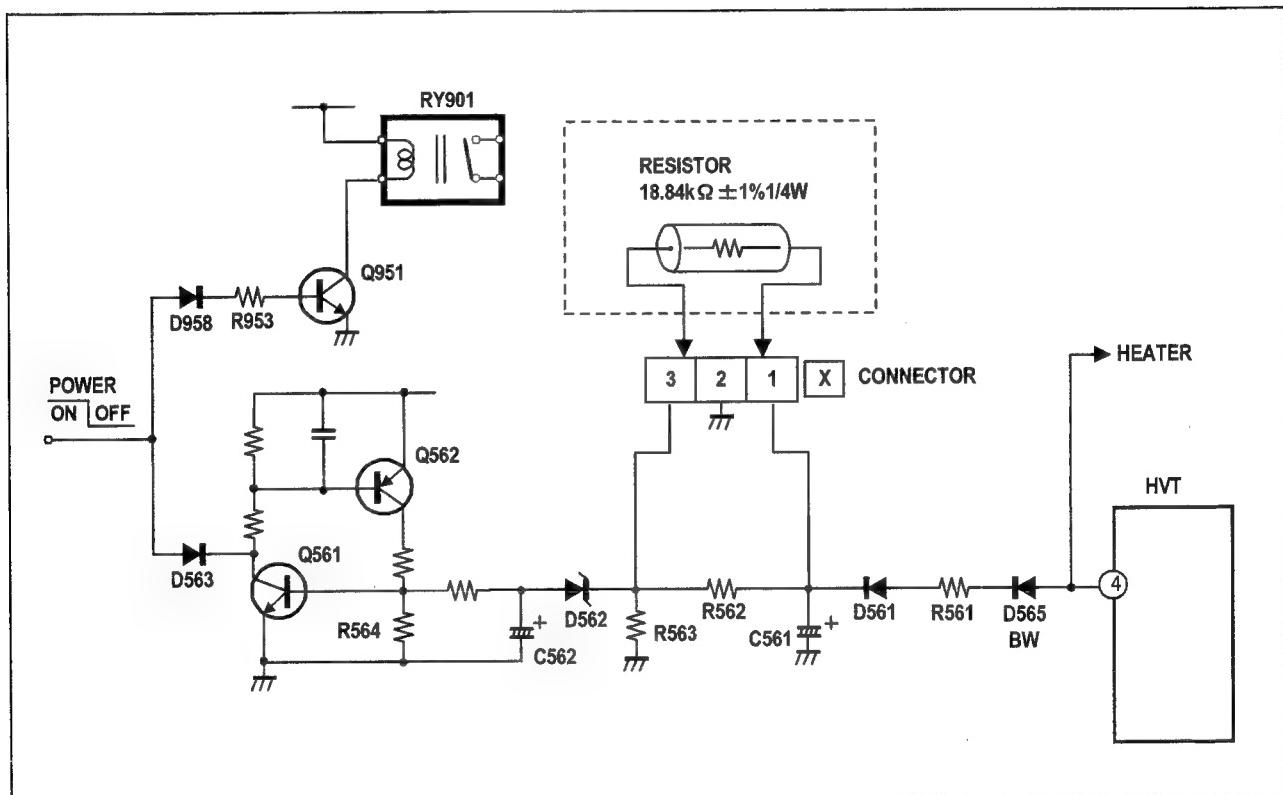

Fig. 1
After repairing the high voltage hold down circuit shown in Fig. 1.
(1) Turn the POWER SW ON.
(2) As shown in Fig. 1, set the resistor (between X connector [1] & [3]).
(3) Make sure that the screen picture disappears.
(4) Temporarily unplug the power cord.
(5) Remove the resistor (between X connector [1] & [3]).
(6) Again plug the power cord, make sure that the normal picture is displayed on the screen.